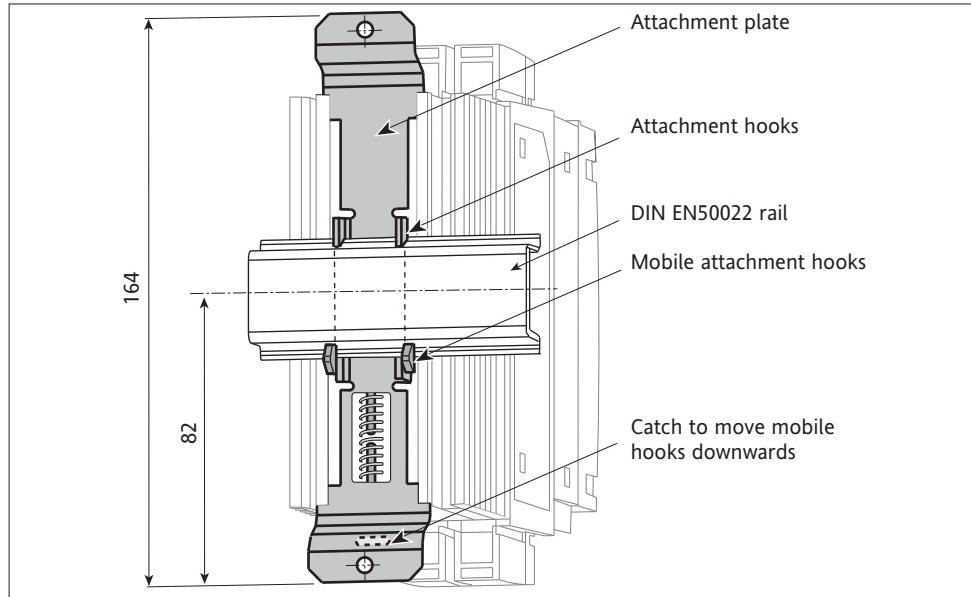

Figure 2-1 Attaching the 7100S solid state contactor to a DIN rail (16 A to 63 A, rear view)
- two fixed hooks and two mobile hooks for clipping to a DIN rail; the mobile hooks are moved using a catch and spring (figures 2-1 and 2-2)
For DIN rail mounting (figures 2-1 and 2-2):